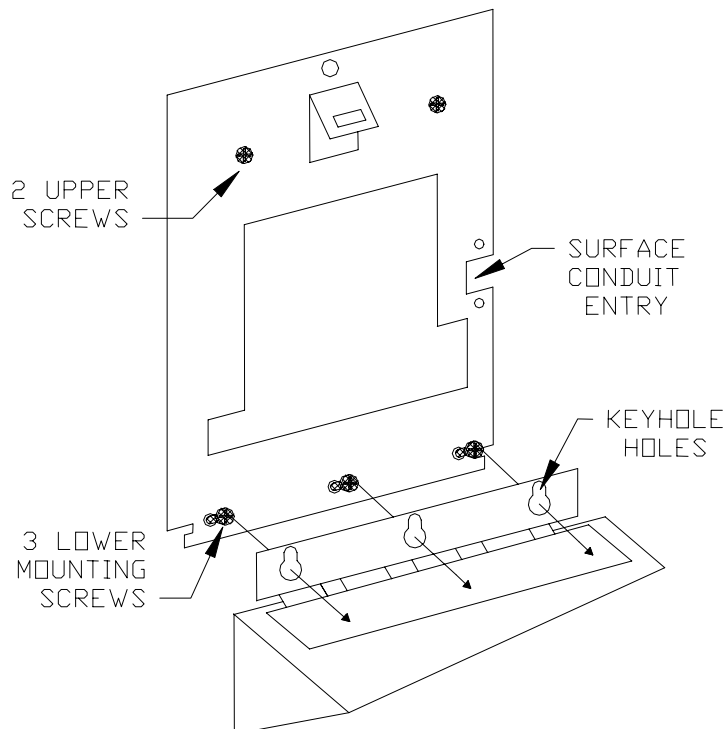

Figure 1.
4. Remove hand reader from wall by loosening the three screws that secure the hinge assembly to the wall mounting plate. Then slide the reader upwards until the screws can pass through the slotted holes in the hinge assembly. See figure 1 below.